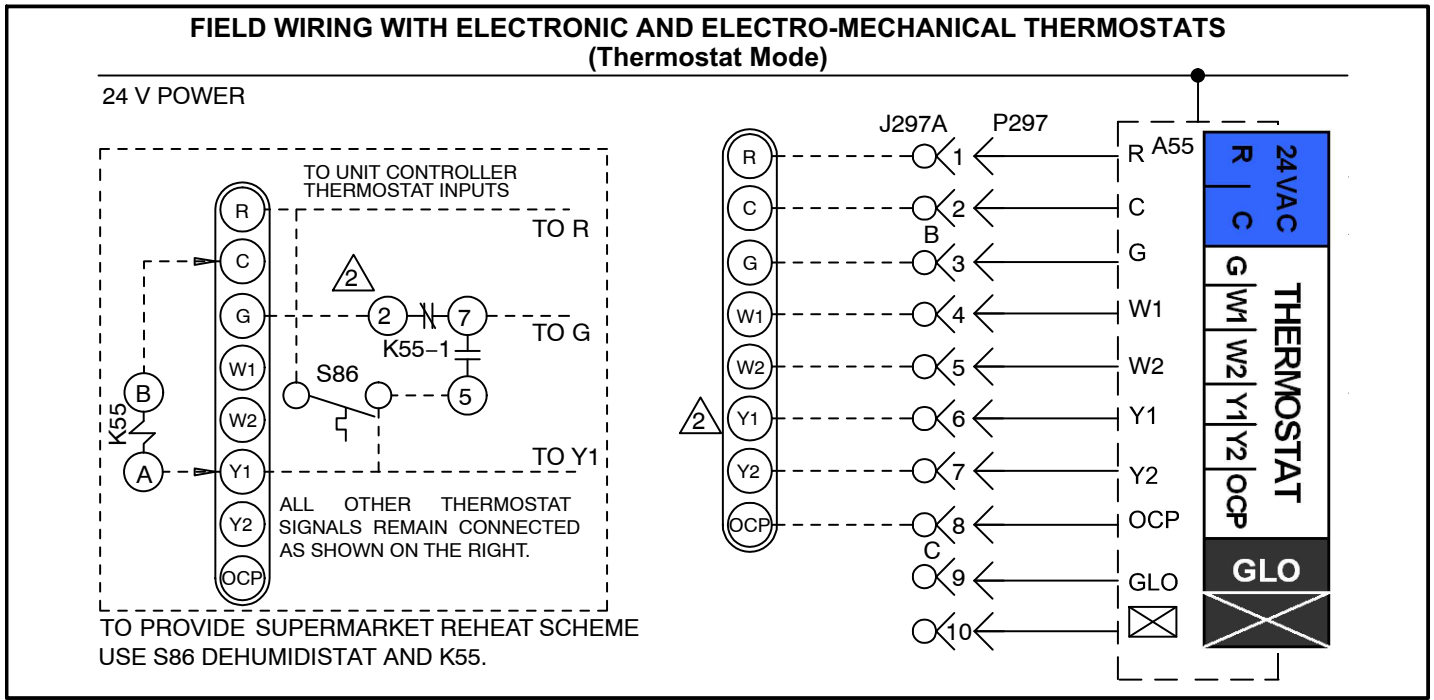
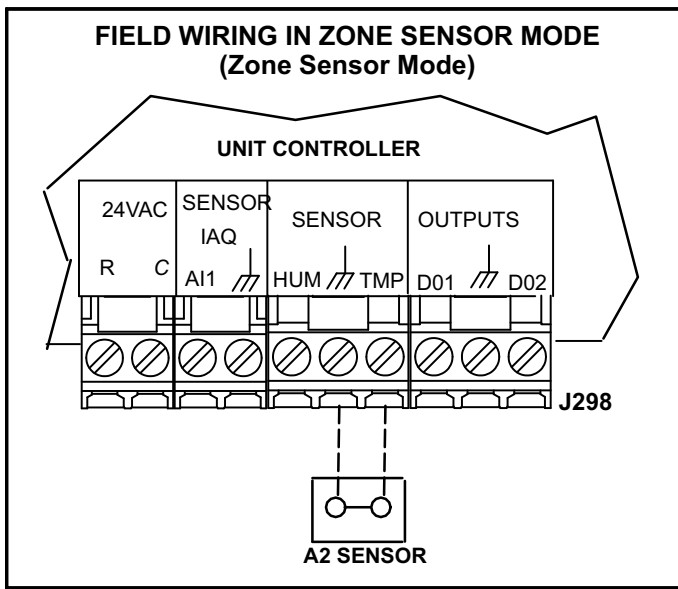
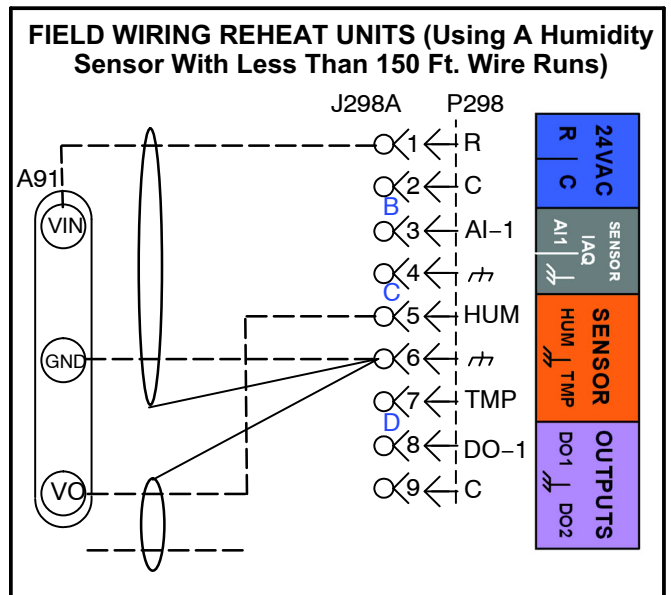

FIGURE 16
FIGURE 17
FIGURE 18
- 4- Wire as shown in figure 16 for electro-mechanical and electronic thermostats. If using other temperature control devices or energy management systems see instructions and wiring diagram provided by manufacturer.
The Unit Controller will operate heating and cooling based on the Unit Controller internal setpoints and the temperature from the A2 zone sensor. An optional Network Control Panel (NCP) can also be used to provide setpoints. A thermostat or return air sensor can be used as a back-up mode. Make zone sensor wiring connections as shown in figure 17.
- 2- Make wiring connections as shown in figure 16 for Thermostat Mode or figure 17 for Zone Sensor Mode. In addition, connect either a humidity sensor or a dehumidification input. See figure 18 or 19 for humidity sensor wiring or figure 20 for dehumidification input wiring.
Use two separate shielded cables containing 20AWG minimum, twisted pair conductors with overall shield. Belden type 8762 or 88760 (plenum) or equivalent. Connect both cable shield drain wires to the Unit Controller as shown in figure 18.
Use two separate shielded cables containing 18AWG minimum, twisted pair conductors with overall shield. Belden type 8760 or 88760 (plenum) or equivalent. Connect both cable shield drain wires to the Unit Controller as shown in figure 18.